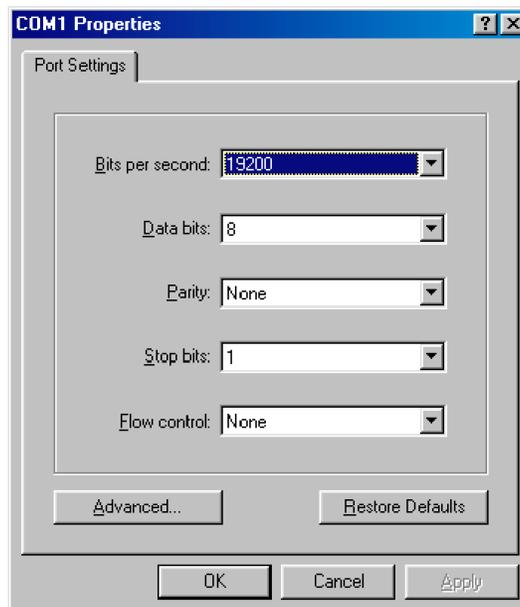

Figure 39. COM properties
- Configure the COM port settings as shown in figure 39.